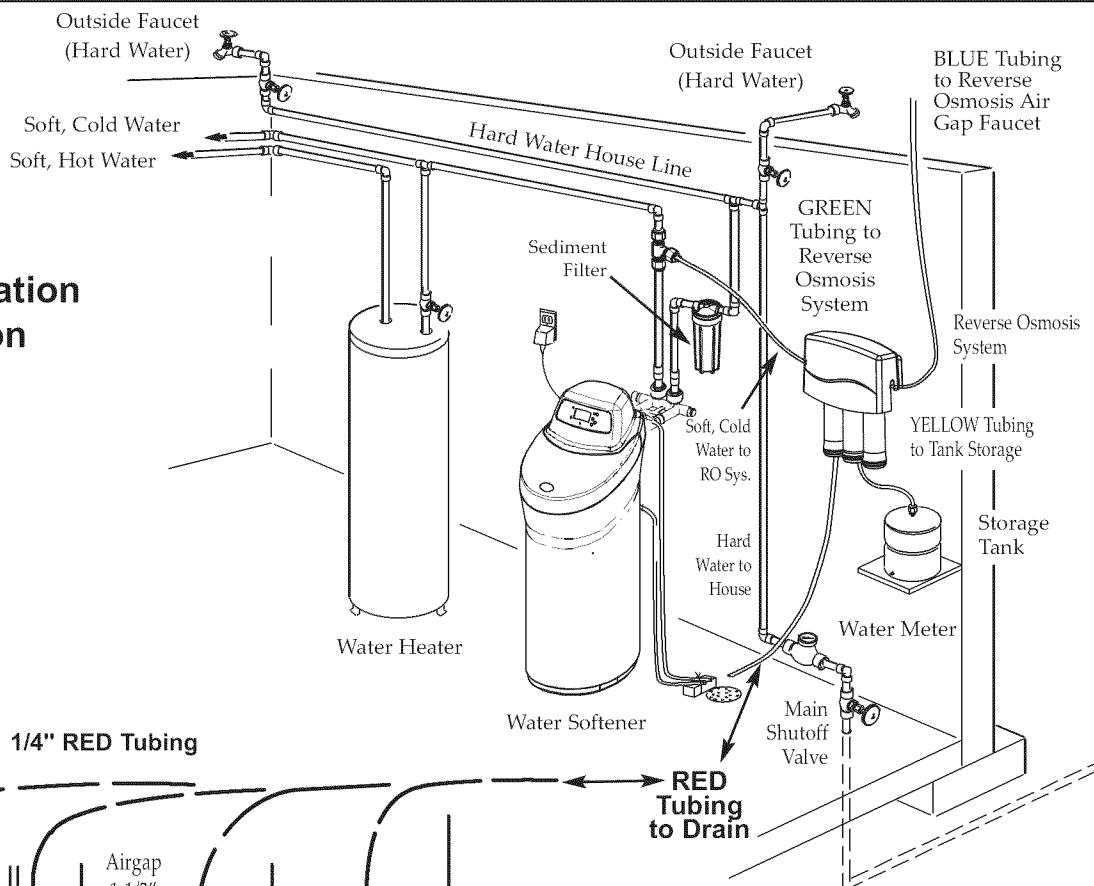

Figure 9
This is usually used in remote location type installations. The drain tube from the Reverse Osmosis Filter runs directly to an open drain. See Figures 9 & 10.
1. Locate the 1/4" red tubing on the Reverse Osmosis filter assembly. See Figure 9.